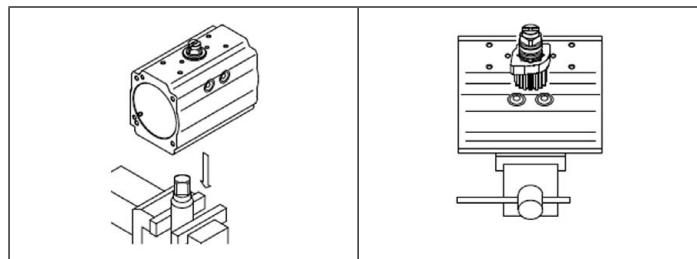

Fig. 13: Installing the pistons
- Ensure that the cam is in the correct position (see Fig. 13:),